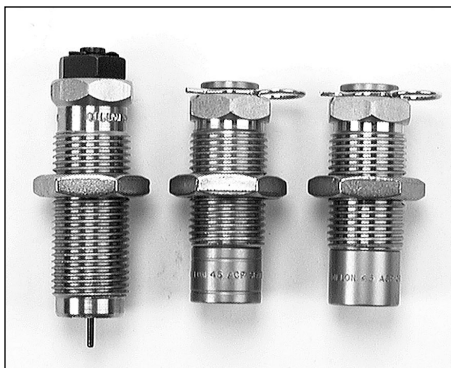

FIG 25
The stations on the toolhead are numbered 1-5. Station 1 is for the sizing/decapping die **FIG 25**. This die can be easily identified by the decapping pin sticking out the bottom as well as by its label. This die removes or "decaps" the old primer and resizes the case.
Station 4 is for the seating die **FIG 25**. This is where the bullet is pushed into the case.
Station 5 is for the crimp die **FIG 25**. This die not only removes the bell created at Station 2, but rolls the mouth of the case inward to insure proper feeding and to secure the bullet.
A. Station 1 – To install the size/decap die FIG 25: